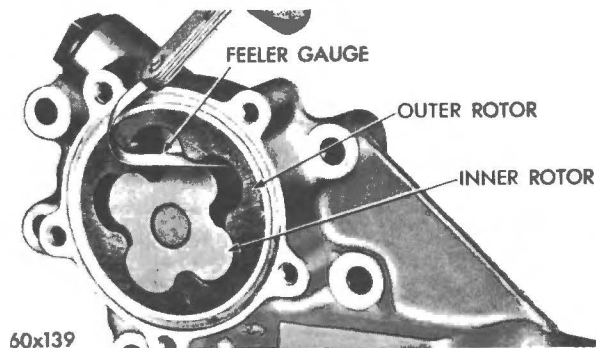

Fig. 8 - Measuring clearance between rotors.
(9) If clearance between inner rotor and outer rotor is more than .010" (Fig. 8), replace inner and outer rotors.